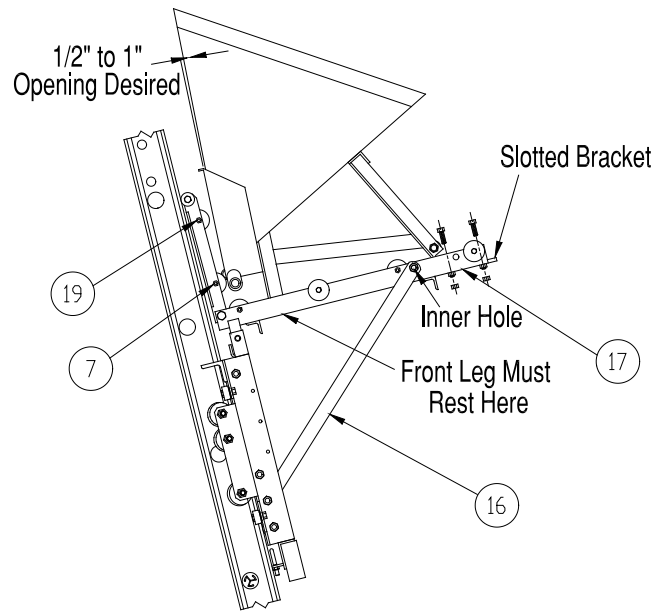

Figure 3-6.
2. The hinged brackets on the base of the hopper opposite the front legs are mounted to the platform using the loose bolts provided. Before tightening these bolts, be sure that both front legs of the hopper are resting solidly on the platform. If this is not done, excessive load will be placed on the #19 wheels, causing undue wear. The brackets are slotted for this adjustment. When the hopper is properly placed, the discharge gate will be slightly open as shown in Figure 3-6.